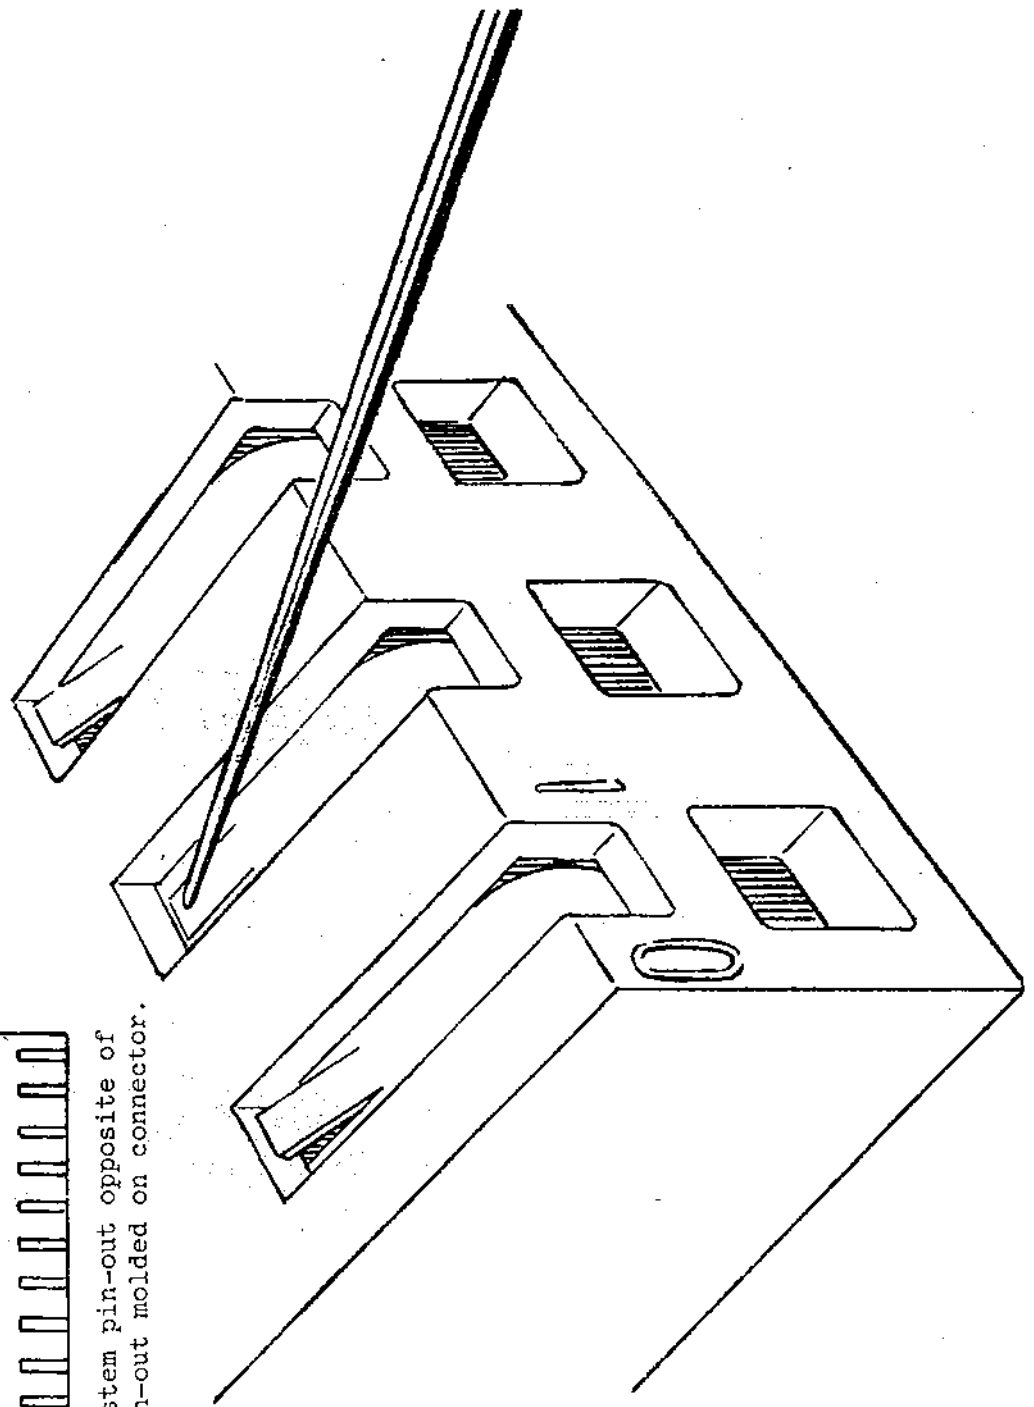

FIGURE 6
- 6) Route the control panel wiring harness. Locate the three connectors labeled P5, J4 and J5 at the end of the control panel harness. Plug connectors P5 into connector P5 located along the top edge of the main logic board. Similarly plug J4 into J4 and J5 into J5 of the I/O expansion board. Plug the remaining two wires (white and violet) of the control panel harness into connector P4 of the main board as shown in Figure 6.